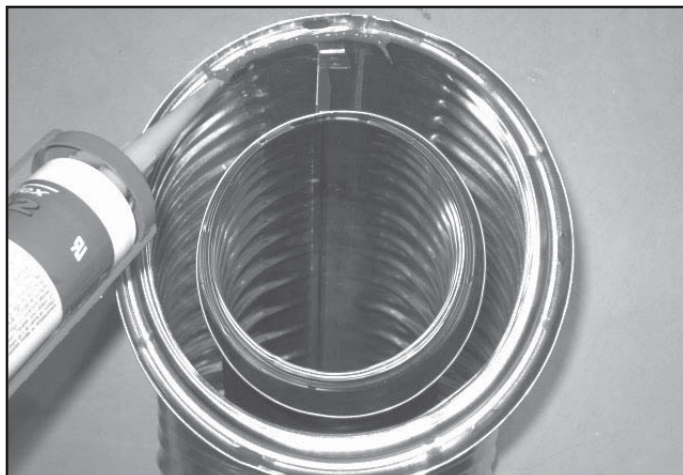

Figure 10.1 High Temperature Silicone Sealant
- Apply a bead of silicone sealant inside the female outer pipe joint prior to joining sections. See Figure 10.1